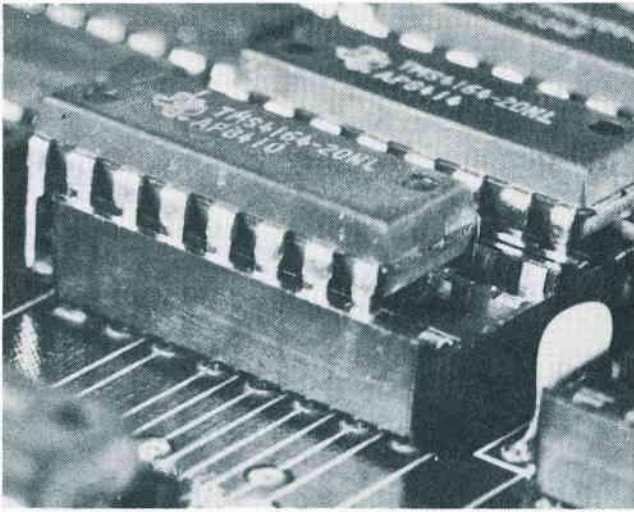

Fig. 3-11. Be careful not to offset the chip by one pin.
- Don't offset the chip over the socket by one pin as shown in Fig. 3-11.